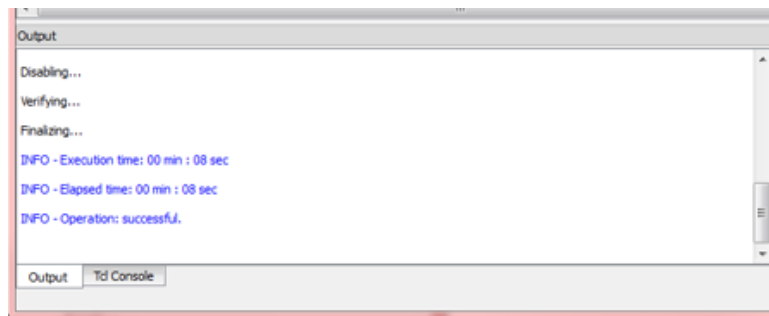

Figure B.9. Output Console
6. After successful programming, the **Output** console displays the results as shown in Figure B.9.